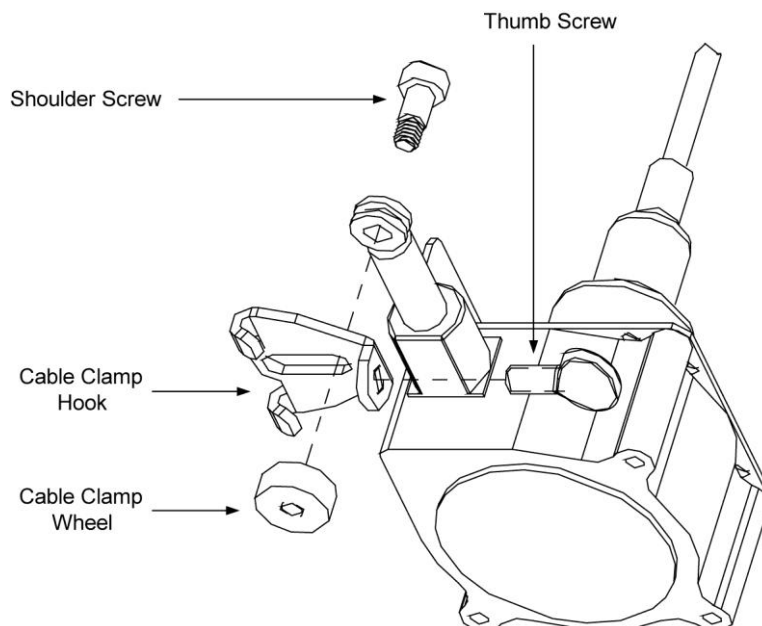

Figure 1: Attaching Cable Clamp Parts to Vertical Sash Sensor
1. Attach the Cable Clamp Hook and Cable Clamp Wheel to the Vertical Sash Sensor using the Philips Shoulder Screw (Figure 1). Slide the Shoulder Screw through the eyelet on the end of the Sash Sensor string, through the Cable Clamp Hook, and fully tighten to the Cable Clamp Wheel.
2. Insert the Thumb Screw into the top of the Cable Clamp Hook, but **DO NOT** tighten all the way (Figure 1). Leaving the Thumb Screw in this position will allow for easy adjustment of the Cable Clamp Wheel when attaching to the sash counter-weight cable.